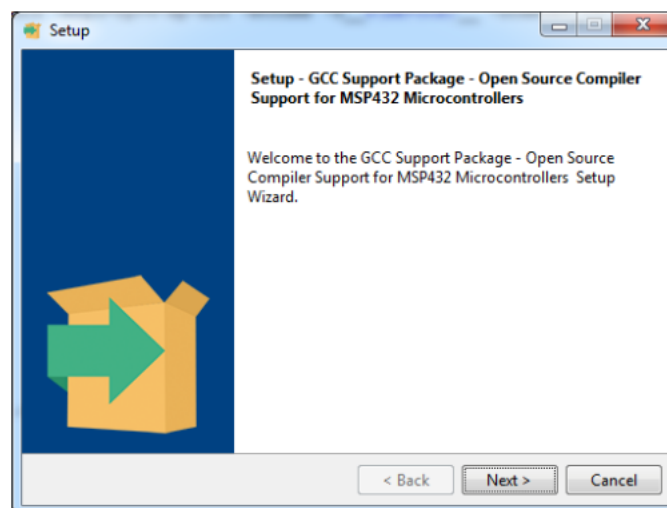

Figure 1. MSP432 Software GCC Support Stand-Alone Package Installer
1. Download the corresponding package installer and run it (see Figure 1).